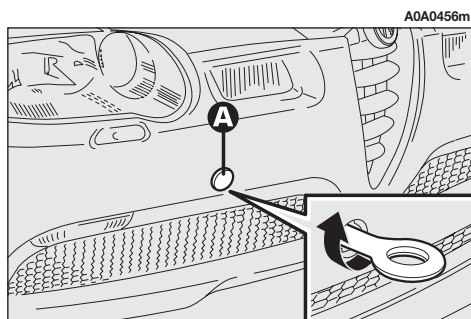

fig. 55
- Remove the cover (**A**) snap-fitted on the front bumper (**fig. 55**). To do this use the flat-bladed screwdriver provided, protect the tip with a soft cloth to avoid damaging the car.